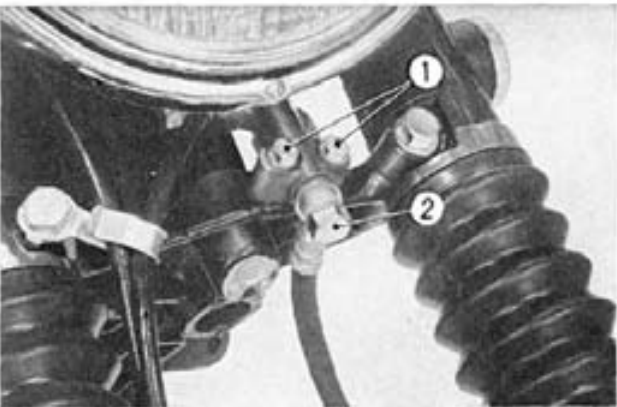

Fig. 16-23 ① Joint mounting bolt
2. Loosen the joint mounting bolts and remove the front stop switch from the joint. (Fig. 16-23)